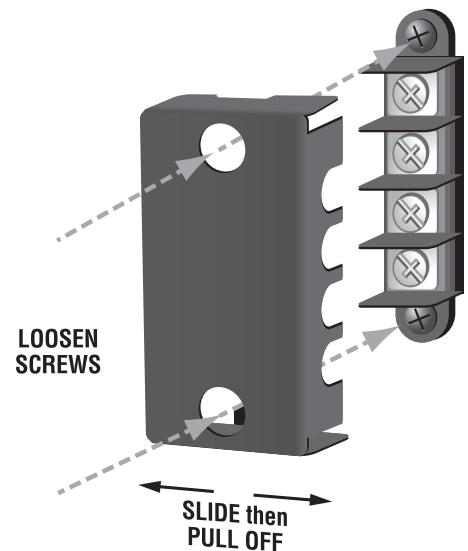

Figure 3.6 How to Remove the Two-Holed
1. Loosen screws inside top and bottom holes of cover (see Figure 3.6).
Typical input and output wiring, along with Attenuator and Mode Switch settings are shown in Figures 3.6 and 3.7. Make sure the Mode switch is set to the “Dual” position when operating in Dual mode.